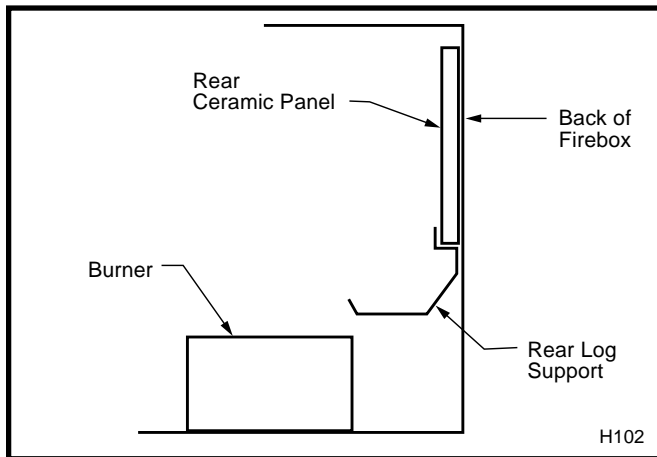

Fig. 76 Rear ceramic panel placement.
3. Place rear ceramic panel in back of unit. (Fig. 76)